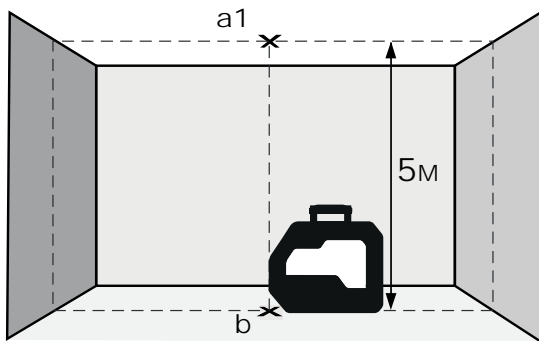

Figure 9
3. Mark the center of the upper plumb dot on the ceiling as point **a1**. (see figure 9)
4. Mark the center of the down plumb dot on the floor as point **b**. (see figure 9).